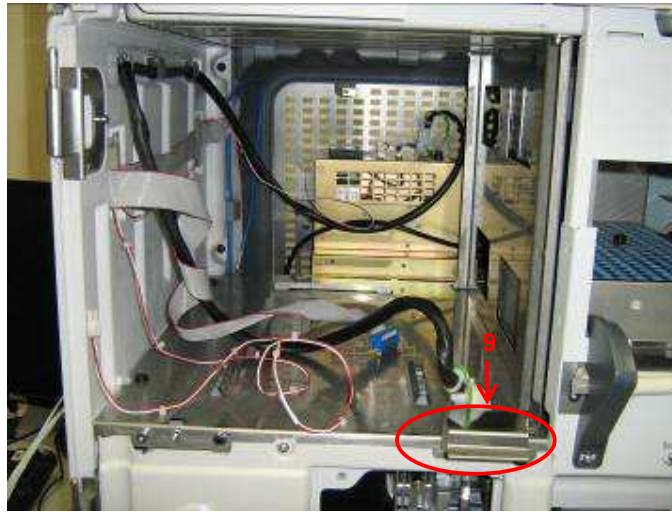

Figure 7: 920 with the front panel removed
7. Once the front panel and the striker plate (9) has been removed (Figure 7), you can start to unpack your Fluorescence detector kit. Remove the Fluorescence Detector from its packaging.
10. Slide the tray with the Fluorescence detector into the top left opening of the 920 system (Figure 7). Make sure that the looms for the column oven are safely run along the right side of the box (Figure 10), as seen from the back of the instrument, and do not get damaged by sliding in the FL detector.